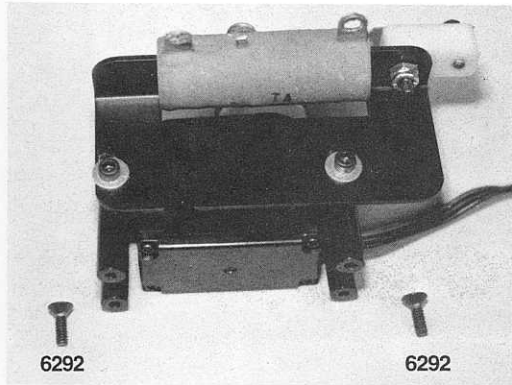

Fig. 141
□ **Figs. 141 & 142** Remove two #6292 4-40 x 3/8" flat head socket screws from bag #8-13. We will use these to secure the throttle resistor servo to the chassis. There are several holes running along the left or drivers side of the chassis. If you look at the bottom of the chassis on that side you will see three holes that have been countersunk. We will be using the back two countersunk holes. Place the throttle servo assembly into the chassis with the resistor facing the battery area. While there are four mounting holes on the servo mounts we will only be using two. Line up the inner mounting holes with the matching countersunk chassis holes and secure the mounts using the two #6292 screws.